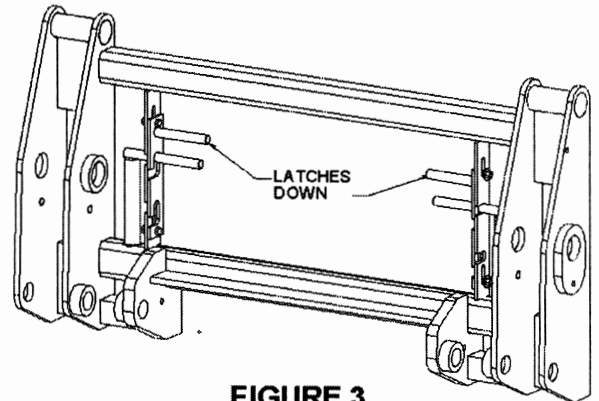

FIGURE 3.
**STEP 3** Install the belly mount tube that hangs in between the belly mounts. Loosely connect the bolts and nuts, do not tighten these yet either. See Figure 3.
**STEP 3** Use a 1-1/2" wrench to turn the cam which pulls the cam block into the pocket. It needs only to be engaged enough so that the 1" bolt can be installed in the hole and the threads started. See Figures 3 and 4.
**STEP 3** Loosen and remove the 1" bolts that secure the cams on both sides of the loader. See Figure 3.
3. Slide the sliding latches down as shown in Figure 3. This secures the QT pins in the “up” position so they do not interfere when hooking up to the next attachment.
1. Approach and hook onto the attachment with QT pins secured in the “up” position as shown in Figure 3.